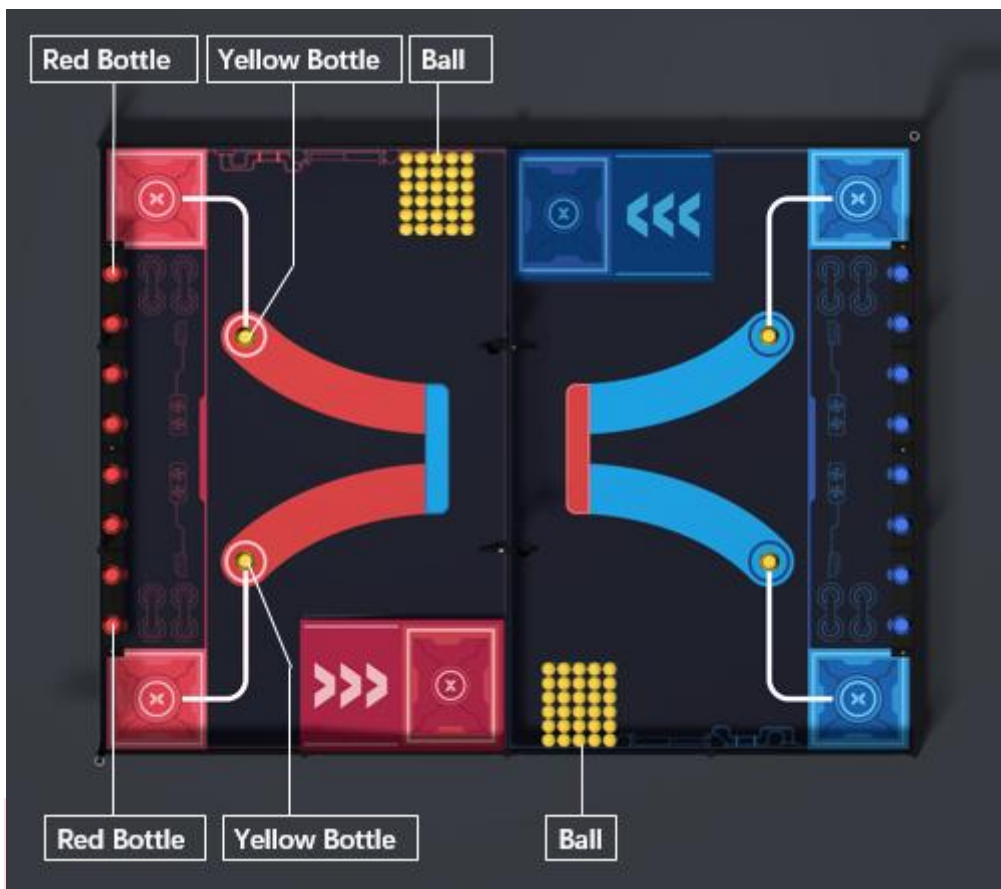

Fig 3.3 Props Allocation of the Arena
The Central Barrier divides the arena into two parts: Red Camp and Blue Camp. Robots from both sides can only compete in their own camp. Before the start of the match, the initial positions of the props are shown in Fig 3.3 (not including the flag).
- **Guide line:** As shown in Fig 3.3, it is composed of white lines and the red (blue) color ribbons, whose widths are 25mm and 260mm respectively.